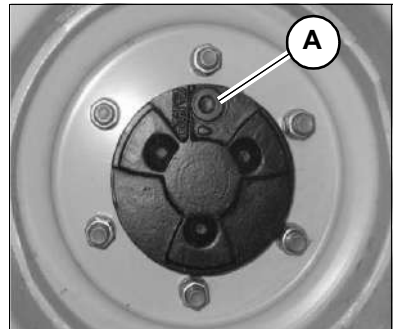

Figure 94 – Wheel-Hub Oil Drain Plug Removal Position
1. Rotate the oil drain/fill plugs (A, Fig. 94) on the wheel hubs so they are positioned at the top as shown in the figure. Thoroughly clean the area around the plugs and slowly loosen and remove the plugs.